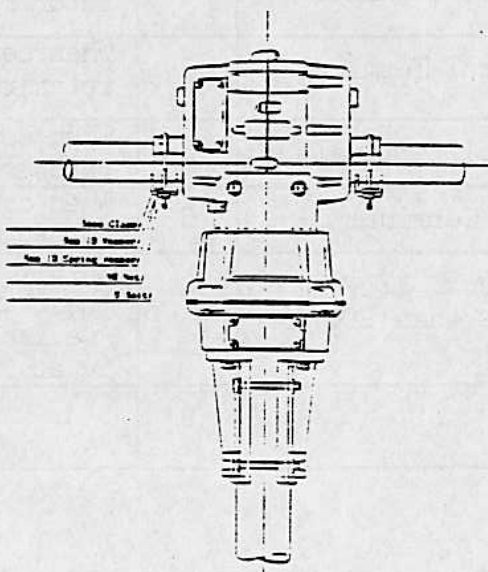

Fig 6
4. Install the mounted rotor units to a supporting mast with using the mast clamp which is provisionally attached to bottom side of AZIMUTH rotor unit, and fix the rotator units to the supporting mast. At this time, it must be adjusted to face the antenna beam to the NORTH supposing an antenna has been installed. (Please refer to Fig.6)
7. Again, depress the LEFT(CCW) switch and RIGHT(CW) switch alternately, and be sure that if the rotor direction should be coincide with the meter indication. In the same way, be sure of ELEVATION rotor.